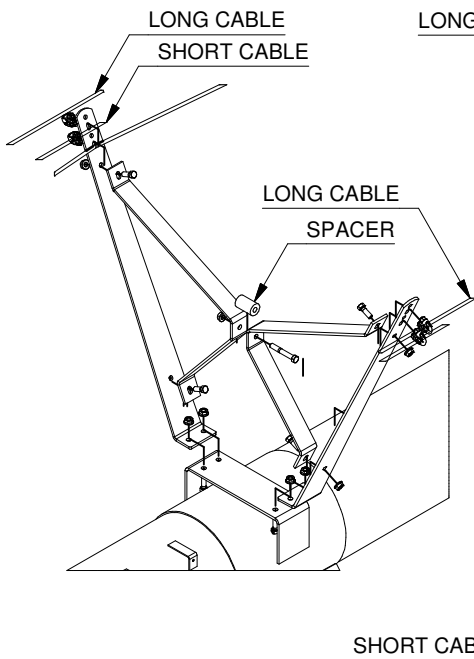

FIGURE 04
6. Fasten **SHORT CABLE** to bottom two holes in **(FIGURE 04)** using $\frac{3}{8}$ " cable clamp and nuts. Leave loose.